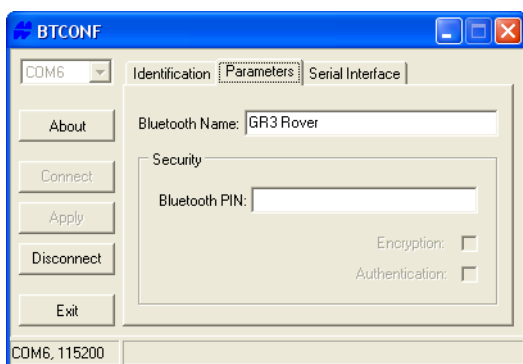

Figure 2-22. BTCONF Parameters Tab
5. Click the **Parameters** tab (Figure 2-22). The Parameters tab sets identifying and security information for your Bluetooth module. The security section allows you to set data security and unauthorized access parameters for the Bluetooth module.
6. Enter up to 14 characters to set a unique name for the Bluetooth module (Figure 2-22), and click **Apply**.